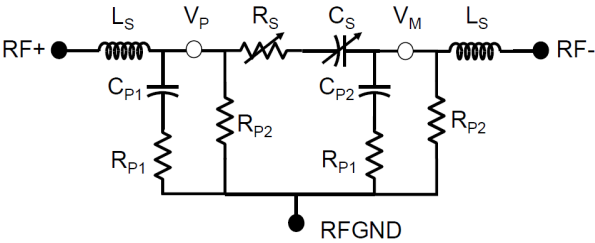

Figure 10. Equivalent circuit model schematic
2. Node voltages defined per the equivalent circuit model schematic in Figure 10. When the DTC is used as a part of reactive network, impedance transformation could cause the internal RF voltages (V_P and V_M in Figure 10) to exceed the peak operating RF voltage even with the specified RF input power levels. For operations above +20 dBm (100 mW), the complete RF circuit must be simulated using actual input power and load conditions, and internal node voltages V_P and V_M monitored to not exceed 30 V_{PK} .
When the DTC is used as a part of a reactive network, impedance transformation can cause the internal RF voltages (V_P and V_M in Figure 10) to exceed peak operating RF voltage. The complete RF circuit must be simulated using actual input power and load conditions to ensure that neither V_P nor V_M exceed $30 V_{PK}$.